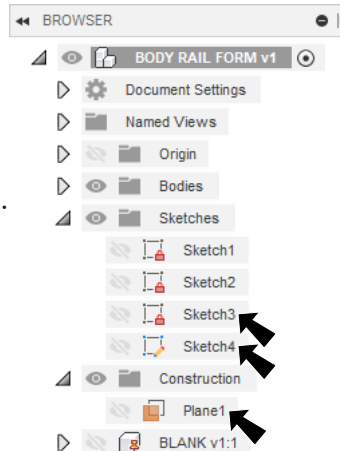

Fig. 1
Step 3. In the Browser **Hide**  **Sketches** and **Construction** used in the CAM tutorial. Hide **Sketch3**, **Sketch4** and **Plane1**, Fig. 1.